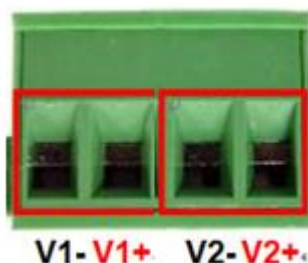

Figure 2.8
1. Insert the positive and negative wires into the PWR1 (V1+, V1-) and PWR2 (V2+, V2-) contacts on the terminal block connector as shown below in *Figure 2.8*.